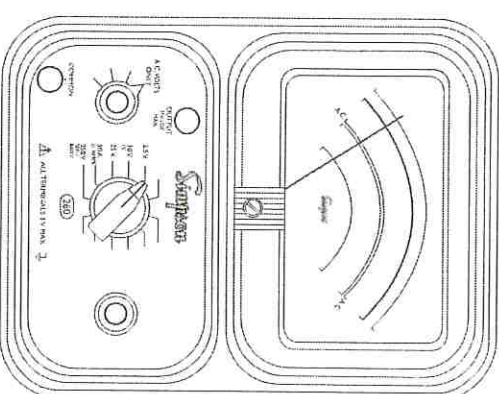

FIGURE 4-9. Jacks and Switch Positions for Output Measurements
- Set the function switch to AC volts only position (Figure 4-9).